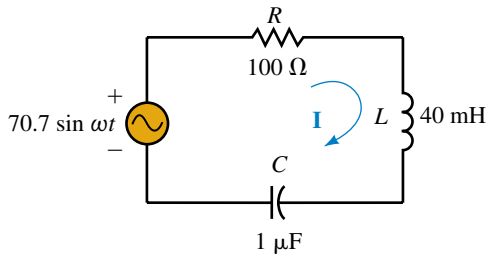

FIGURE 21-56
12. Repeat Problem 11 for the circuit of Figure 21-56.